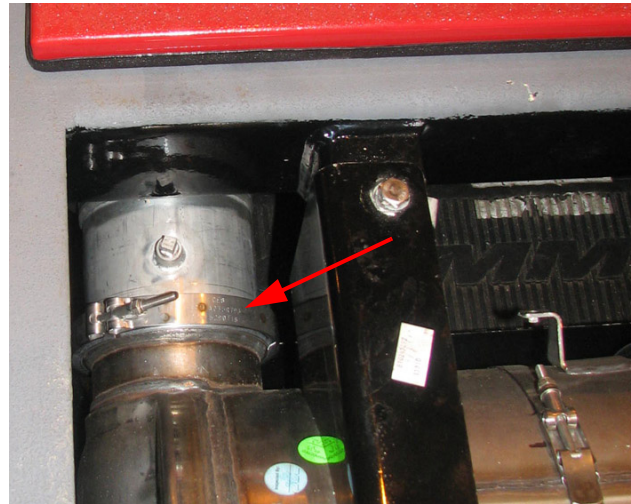

FIGURE 7-10
3. Loosen the clamp (Figure 7-10) that secures the DOC/DPF module to the bellows exhaust pipe from the engine.